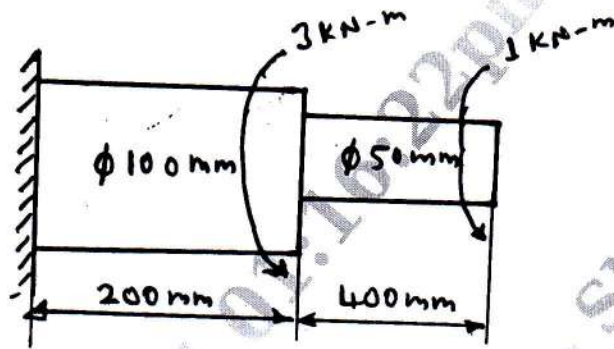

Fig Q6(b)
b. A solid stepped bar of circular cross section as shown in Fig Q6(b), is subjected to a torque of 1kN-m at its free end and a torque of 3kN-m at its change in C/S. Determine the angle of twist in the bar. Take $E = 2 \times 10^5 \text{ MPa}$, $G = 7 \times 10^4 \text{ MPa}$.